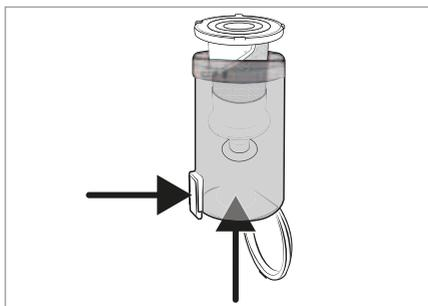

Fig. 20
- 3) Remove the stainless steel filter **6** from the dust container **7** by pressing the dirt container lid release button **8**. Then slide the stainless steel filter **6** out of the dust container **7** from below (see Fig. 20).